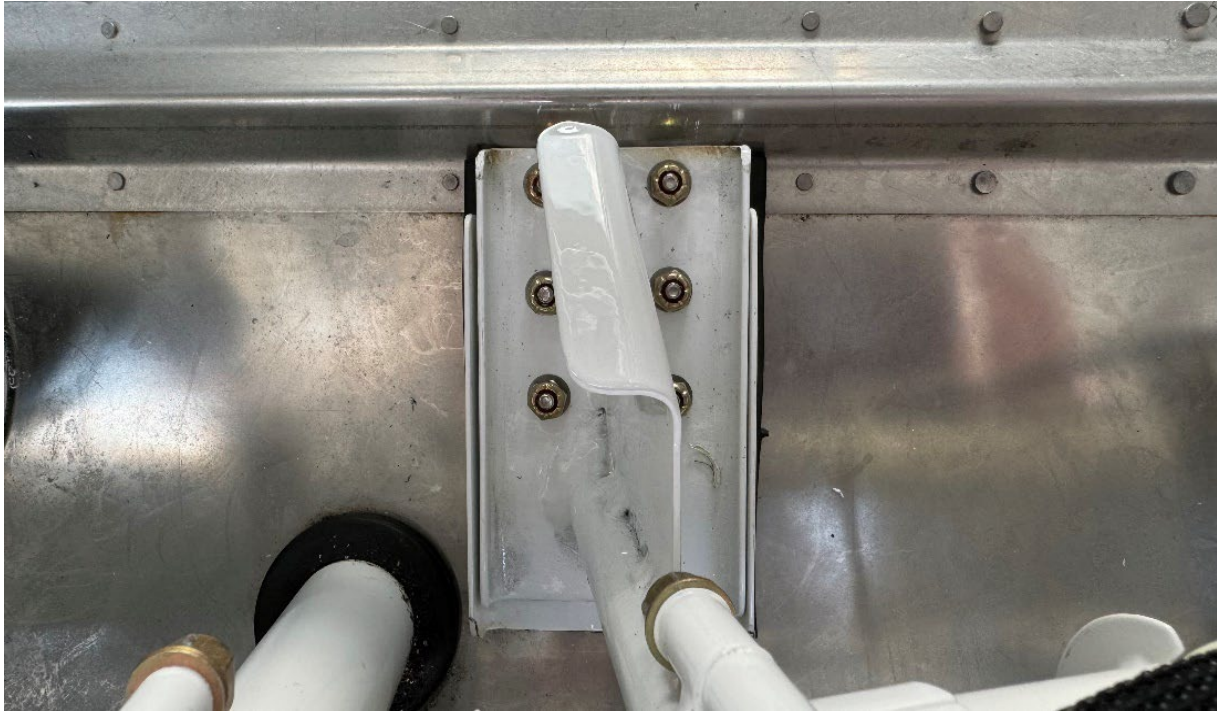

Figure 9-4.2a
1. Locate the new standoff in place of the previous standoff and trim-to-fit so to ensure appropriate edge distance with the standoff foot covering the full length of the hat channel flange. (Reference Figures 9-4.2a, 9-4.2c, 9-4.3a, & 9-4.3b)